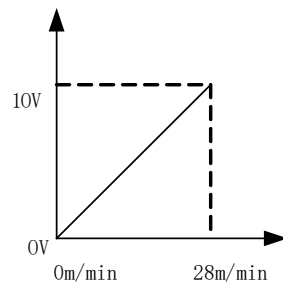

Figure 4-8 Signal equivalent circuit
4. The corresponding relationship between actual set wire feeding speed value of welding machine and the analog receiving value of welding machine, as shown in Figure 4-8;